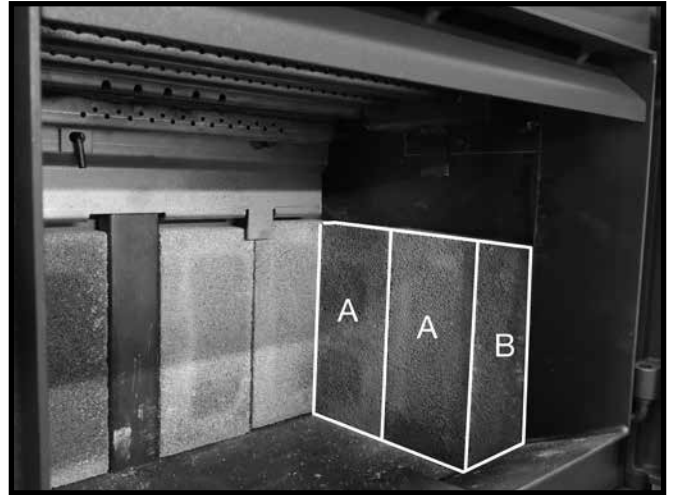

Figure 19: Lower side wall firebricks in place.
2. For the side walls: Stand an "A" firebrick against the side wall and up against the rear wall firebrick. Stand another "A" brick beside the first one followed by a narrow "B" firebrick (Figure 19).